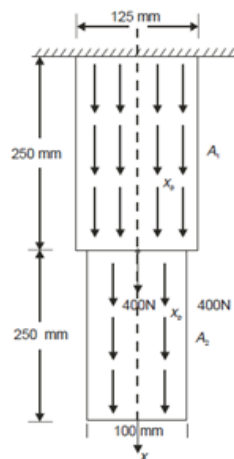

Figure 1
4. The thin plate of uniform thickness 20 mm, is as shown in Figure 1. In addition to the self-weight, the plate is subjected to a point load of 400N at mid-depth. The Young's modulus  $E = 2 \times 10^5 N/mm^2$  and unit weight  $\rho = 0.8 \times 10^{-4} N/mm^2$ . Analyse the plate after modelling it with two elements and find the stresses in each element. Determine the support reactions also. [14M]